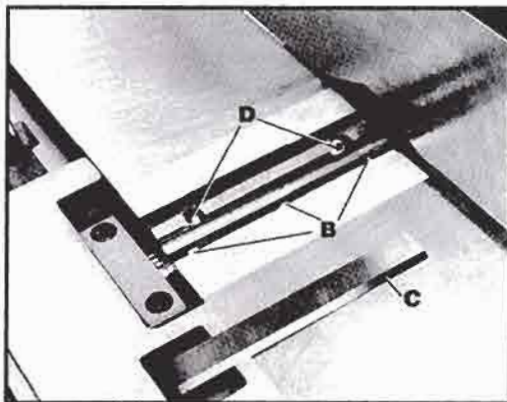

Fig. 30
5. When the three knives are removed from the cutterhead, lower the two knife raising blocks by turning the two screws (D) Fig. 30, counterclockwise. Then lower the knife raising blocks in each of the two remaining cutterhead slots in the same manner.
6. When replacing, insert the knife (C) Fig. 30, into the slot in the cutterhead, making certain the bottom of the knife engages the cut out in the knife raising blocks and push the knife down as far as possible. **CAUTION:** Care must be taken when inserting the knives as the cutting edges are very sharp.
7. Tighten the knife locking screws (B) Fig. 30, by turning each one counterclockwise just enough to hold the knife in position. Replace the remaining two knives in the same manner.